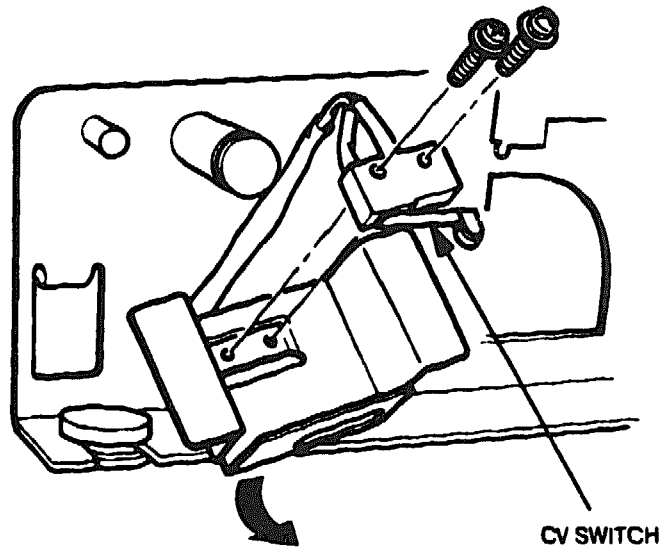

Figure 6-37 Cover Switch Removal
5. Remove the two screws on the cover switch assembly and separate the switch from the switch cover (see Figure 6-37).